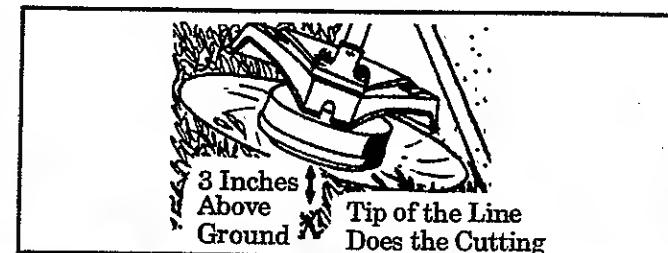

Figure 11
- TRIMMING** – Figure 11 . Hold bottom of the trimmer head about 3 inches above ground and at an angle. Allow only the tip of the line to make contact. Do not force trimmer line into work area.